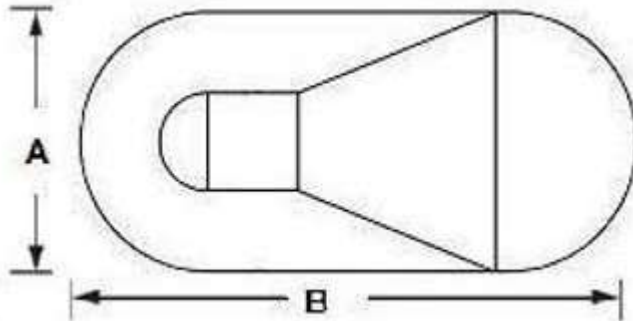
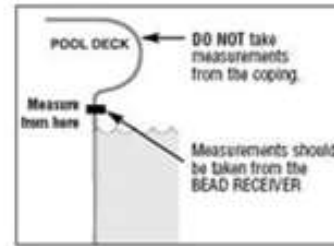

Figure 1
Figure 2
Referring to the illustration of your Oval Pool (Figure 1), be sure that the width (A) and the length (B) measurements are made at the bead receiver (where the liner snaps into the track), not at the edge of the coping or the edge of the pool deck. (Figure 2)